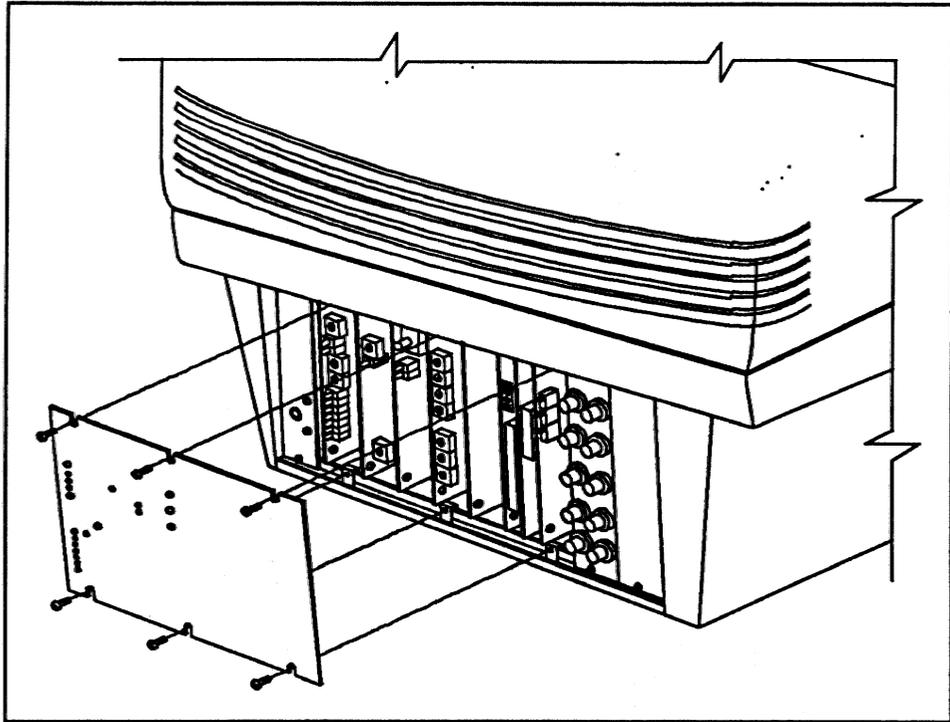

FIGURE 5-9. Back Panel Removal
- d) Remove the back panel as shown in Figure 5-9.